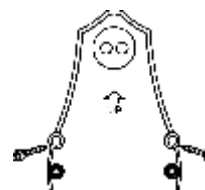

FIGURE 9
- (4) Fix the back plate to the pre-determined mounting location by making use of the two screws provided (FIGURE 9)